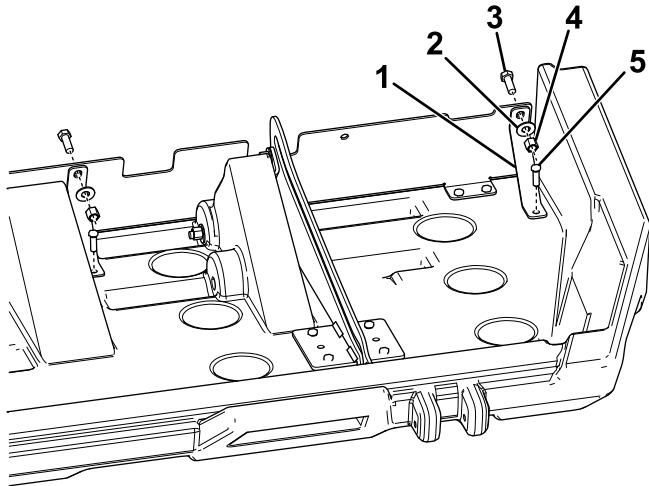

Figure 12
- Attach the 4 support brackets to the material shield and cover using 4 bolts (3/8 x 1 inch), 4 washers, 4 nuts, and 4 lag screws as shown in Figure 12.